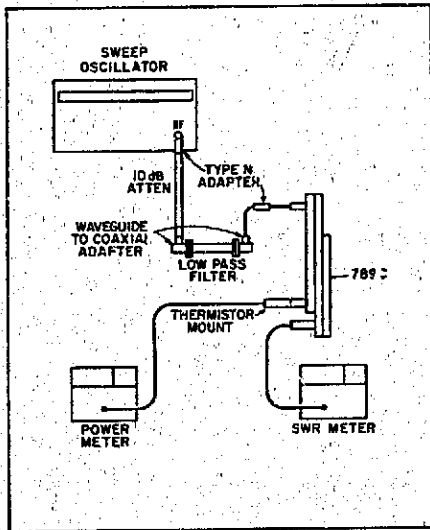

Figure 9. Frequency Response Check
a. **FREQUENCY RESPONSE:** Set up equipment as shown in Figure 9.
f. **SENSITIVITY:** Remove 10-dB Attenuator from setup (of Figure 9) and connect low-pass filter directly to adapter at Sweep Oscillator output after decreasing RF output so as not to damage Thermistor Mount.